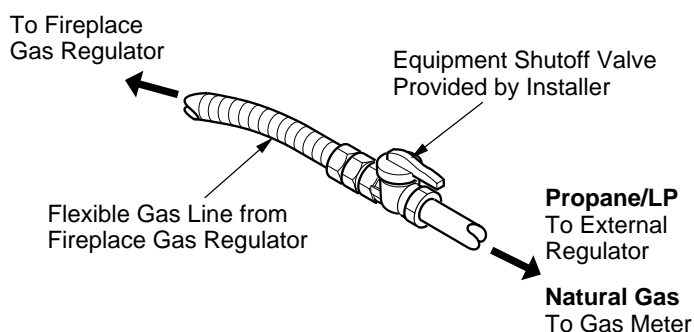

Figure 20 - Attaching Flexible Gas Lines Together
NOTICE: Most building codes do not permit concealed gas connections. A flexible gas line is provided to allow accessibility from the fireplace (see Figure 20, page 13). The flexible gas supply line connection to the equipment shutoff valve should be accessible.
4. Attach the flexible gas line to gas supply (see Figure 20). Check tightness of flexible gas line attached to gas regulator of fireplace (see Figure 20).